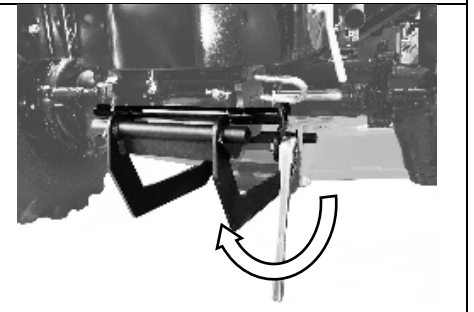

Figure 9C
8. Place the front portion of the Front Pull Bar into the Front Hook bar and use a 1/2" drive ratchet to swing the Front Pull bar into position (figure 9C).